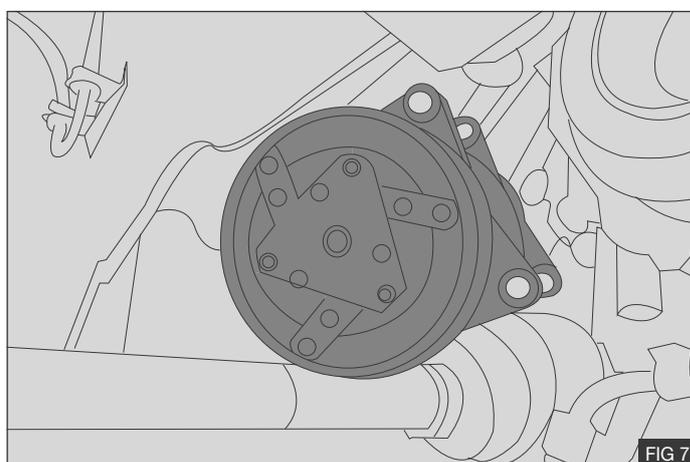

FIG 7
1. Jack the vehicle up to obtain space to fit the compressor between wheel arch and the engine - Fig 7